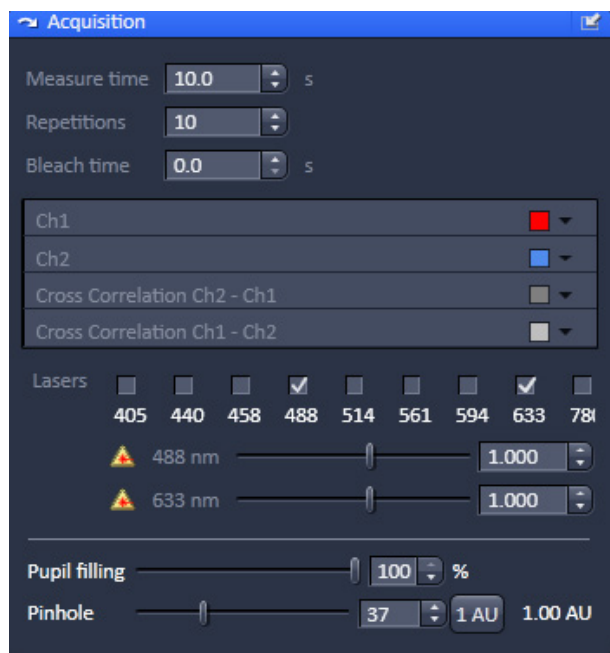

Fig. 271 Acquisition tool
The **Measure Time** (Fig. 271) is the period of **one** measurement. As a rule of thumb the measurement time should be about 1000 x the diffusion time of a molecule under study. However, due to noise in the system a 10 s measurement time is a good start value to obtain good statistical results. Enter a number in seconds in the input box or use the scroll arrows.
- Click on the **Acquisition** tab to open the **Acquisition** panel (Fig. 271). Click on any other tab to leave the panel.